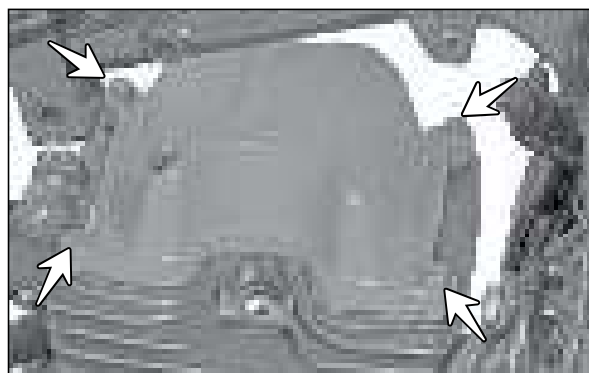

Fig. 3.39
- Remove the hexagonal flange bolt (M16x25 - 4 Nos.) from the cover cylinder head mounting. (Fig. 3.39)